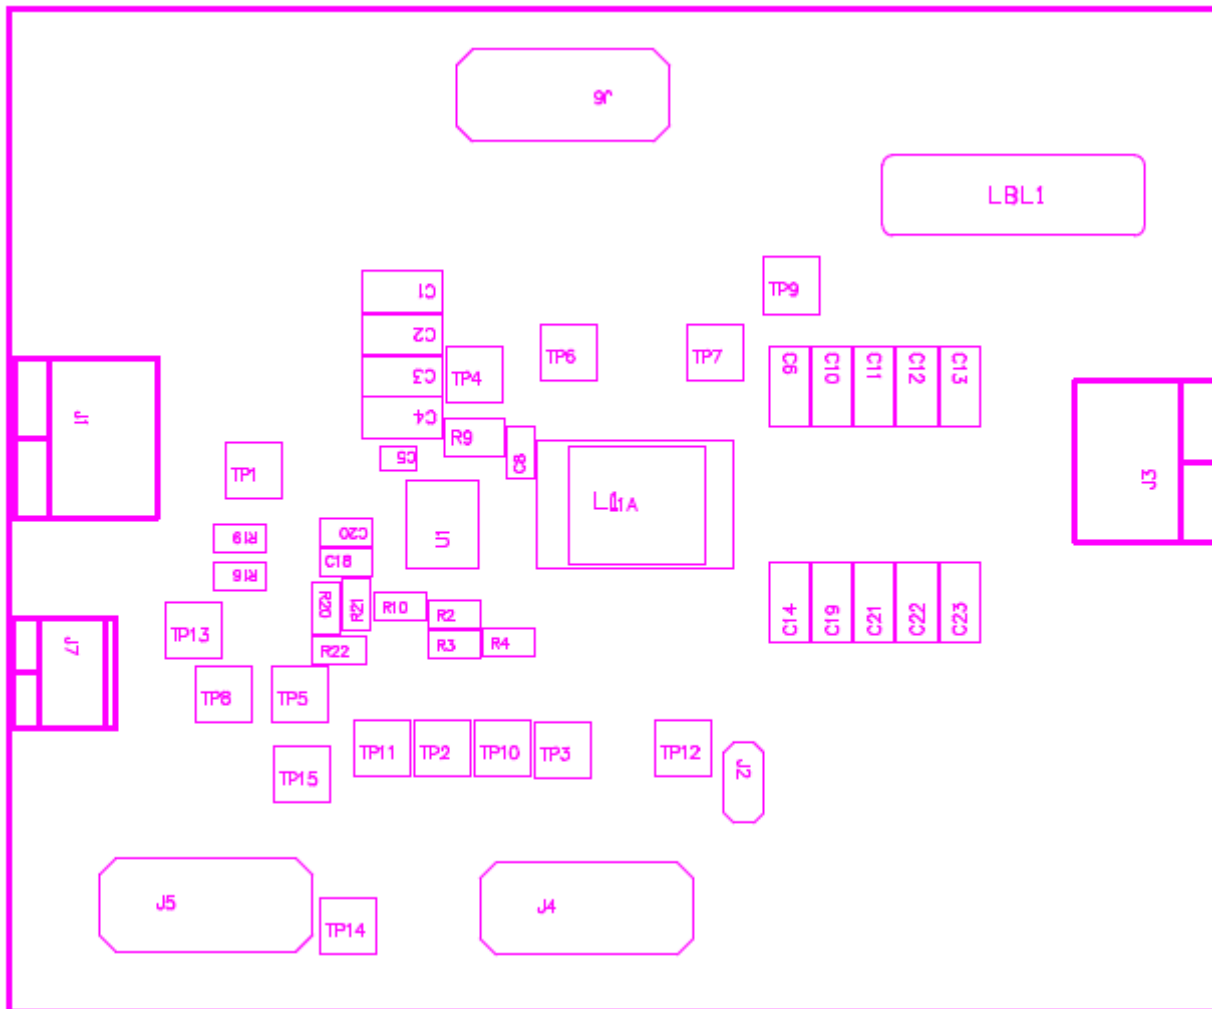

Figure 3. TPS53915EVM-587 Top Layer for Test Setup
Voltage Source—The input voltage source VIN must be a 0 to 14-V variable-DC source capable of supplying 10 ADC. Connect VIN to J1 as shown in Figure 3.
1. Prior to connecting the DC input-source, VIN, TI recommends to limit the source current from VIN to 10 A maximum. Ensure that VIN is initially set to 0 V and connected as shown in Figure 3.
1. Set up the EVM as described in Section 5 and Figure 3.